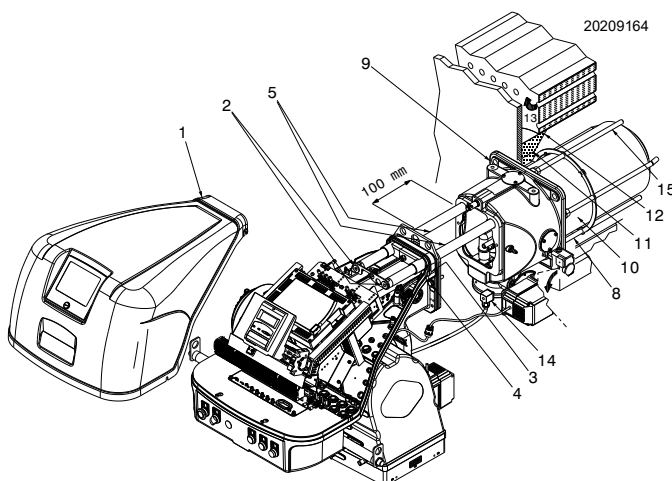

Fig. 16
For boilers with front flue passes 13)(Fig. 16), a protection in refractory material 11) must be inserted between the boiler fettling 12) and the blast tube 11).
For boilers with a water-cooled front piece, a refractory lining 11)-12)(Fig. 16) is not necessary, unless expressly requested by the boiler manufacturer.
Divide the combustion head from the rest of the burner, as shown in Fig. 16; you have to:
Pay particularly attention to the external gas pipes 15 (Fig. 16) during the burner fixing to the boiler in order to avoid to damage them.
- reassemble the burner on the slide bars 3) at about 100 mm from the pipe coupling 4) burner in the position shown in Fig. 16 on page 22;